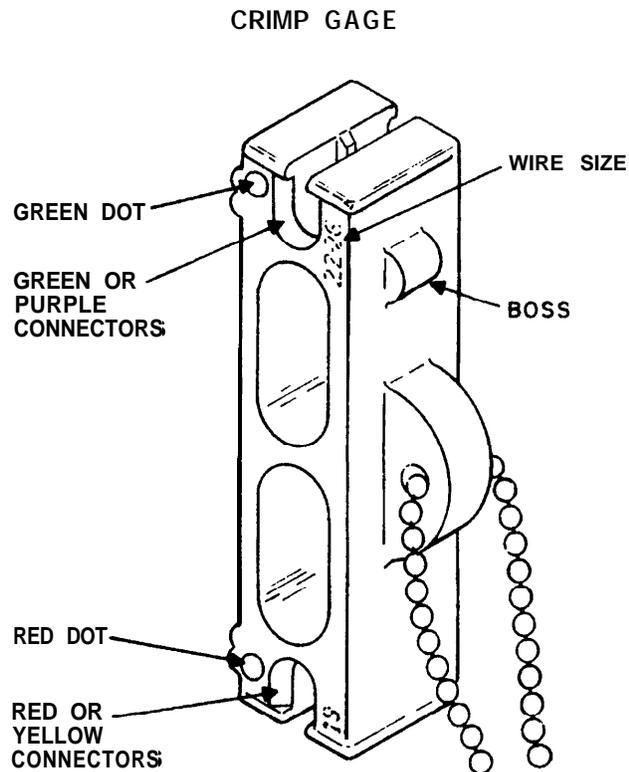

Figure 10. Crimp Gauge Showing Color Designations for Gauge Ends.
5.01 A crimp gauge (See Figure 10) is provided with the A-MP VS-3 tool to enable the tool operator to periodically check the quality of the finished Picabond connections. It is recommended that a minimum of ten test crimp connections be gauged at least once each quarter year. This will verify whether or not the VS-3 tool is in good working order.